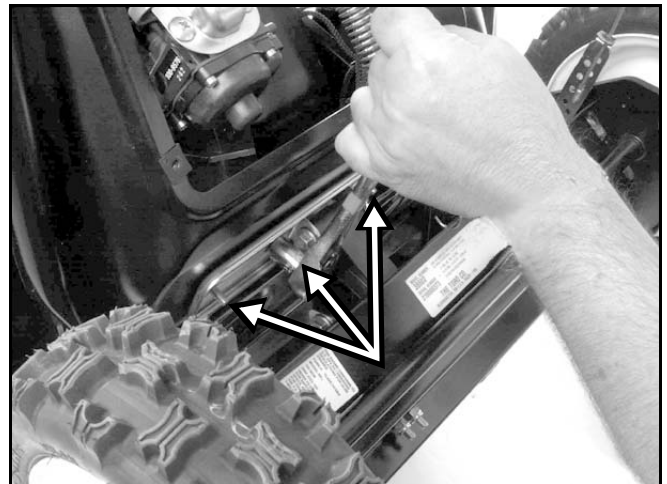

Figure 26
12. Tip the machine forward and remove the 3 locknuts securing the center pivot bracket (Figure 26). They are on studs, so it will not be necessary to try to hold the bolt head.